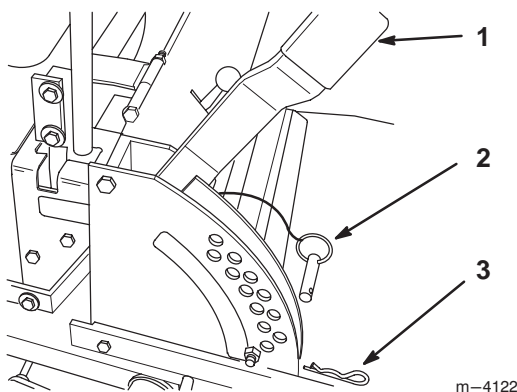

Figure 23
1. Raise the height-of-cut lever to the transport position (also the 4-1/2" (114 mm) cutting height position) (Fig. 23).
2. To adjust, remove hairpin cotter and clevis pin from height-of-cut bracket (Fig. 23).
3. Select hole in height-of-cut bracket corresponding to the height-of-cut desired, and insert clevis pin (Fig. 23).
4. Secure clevis pin with hairpin cotter (Fig. 23).